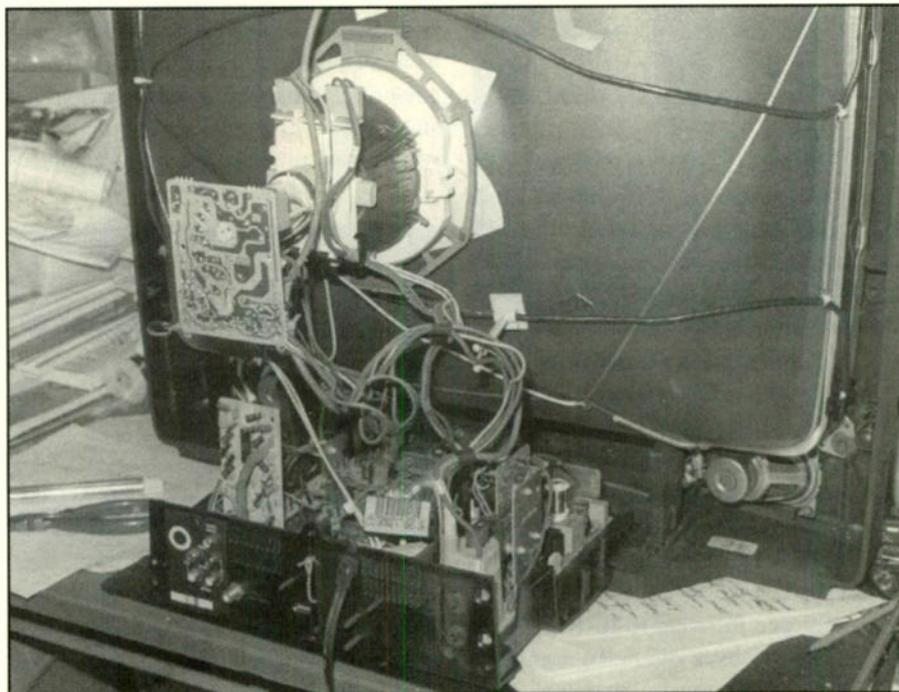

Figure 1. If you encounter video problems, pull the chassis back and look for a large integrated circuit or processor.
**A**lthough the video circuits in color TVs don't cause as many service problems as do the horizontal and vertical circuits, they do account for their share of problems, which may pop up unexpectedly. Video problems are related to front-end circuits found after the tuner and IF sections. In the early solid-state television chassis, the IF stages consisted entirely of transistors. Today, one large integrated circuit might contain IF, luma, chroma, and deflection circuits (Figure 1).